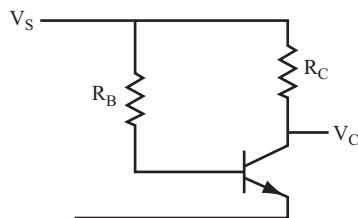

FIGURE 12.4
- 26.** Using the circuit shown in Figure 12.4, find the value of  $R_B$  required to turn the transistor ON if  $V_S = 14$  volts,  $R_C = 10\text{ k}\Omega$ , and  $\beta = 50$ . \_\_\_\_\_
27. Again, using the circuit shown in Figure 12.4, find the value of  $R_B$  required to turn the transistor ON if  $V_S = 5$  volts,  $R_C = 4.7 \text{ k}\Omega$ , and  $\beta = 100$ . \_\_\_\_\_